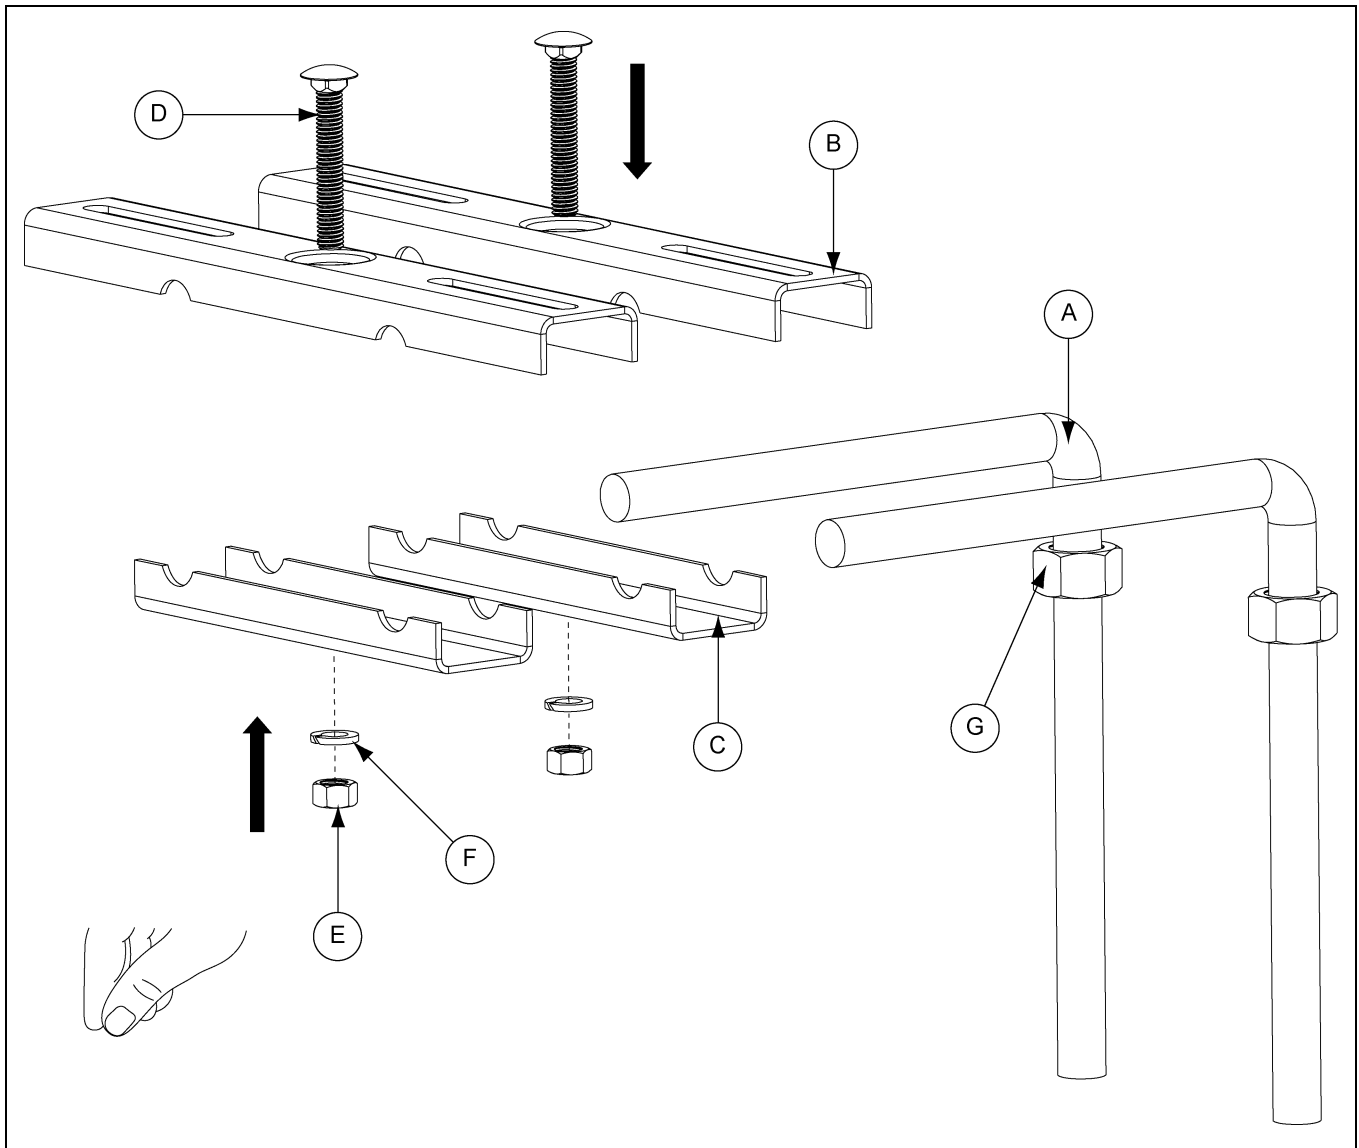

Figure 4AM
Step 15: Assemble motor mount. (See Figure 4AM.)